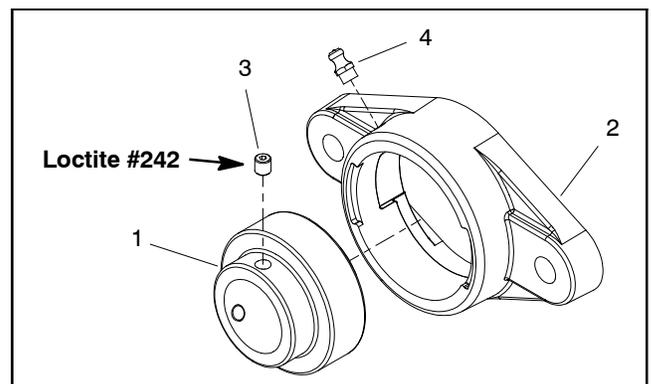

Figure 3
4. Loosen two (2) set screws that secure each bearing locking collar to roller shaft (Fig. 3).